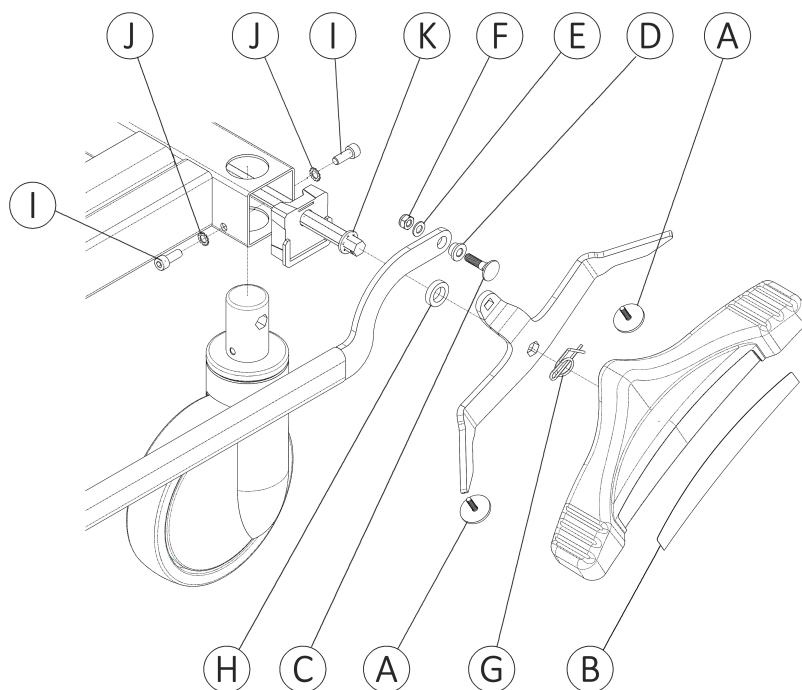

Figure 6: Non-steer caster
4. Using needle nose pliers, remove and discard the rue ring cotter pin (G) from the hex shaft (Figure 6 on page 44).
5. Pull the brake pedal off the hex shaft and set aside (Figure 6 on page 44).
6. Remove and save the plastic washer (H) that is on the hex shaft (Figure 6 on page 44).
7. Using a hammer and a large screw driver, remove and discard the starlock retainer (K) that is on the hex shaft (Figure 6 on page 44).
8. Using a 5 mm hex wrench, remove and discard the two screws (I) and washers (J) that secure the non-steer caster to the base frame (Figure 6 on page 44).